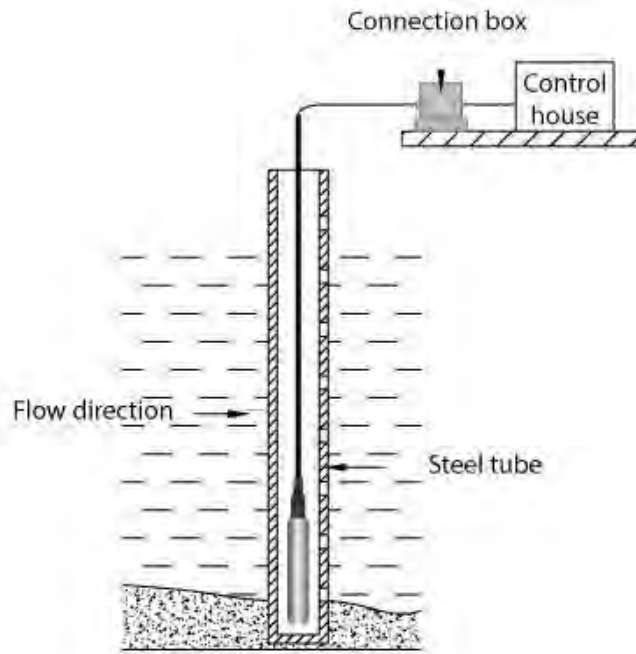

Fig. 3
a. Method One: Insert a steel tube in the water channel (Fig 3).